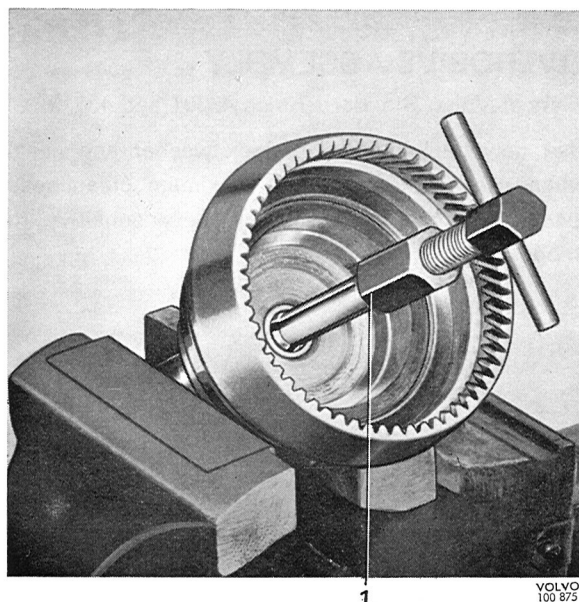

Fig. 4-57. Output shaft bushing removal
4. Remove the circlip and the oil thrower, which hold the one-way clutch on the output shaft. Lift out the one-way clutch components. Remove the thrust washer. If necessary pull the bushing on the output shaft with puller 2423, see Fig. 4-57.